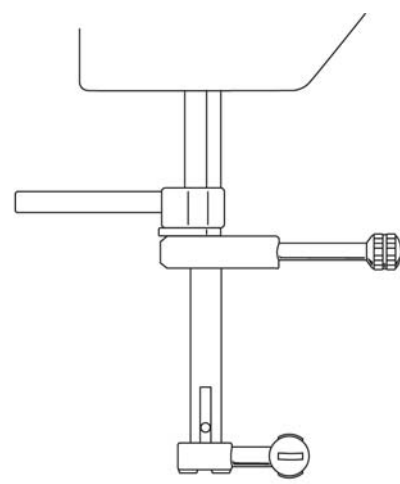

Fig. 3b
- Turn the handwheel in sewing direction until the needle-rise clamp rests on the spacer (fig. 3b).
- Re-fit the needle-rise clamp and repeat the procedure as described in „Check“ until the needle bar has moved upwards by 2 mm and the needle-rise clamp rests on the spacer (fig. 3b).